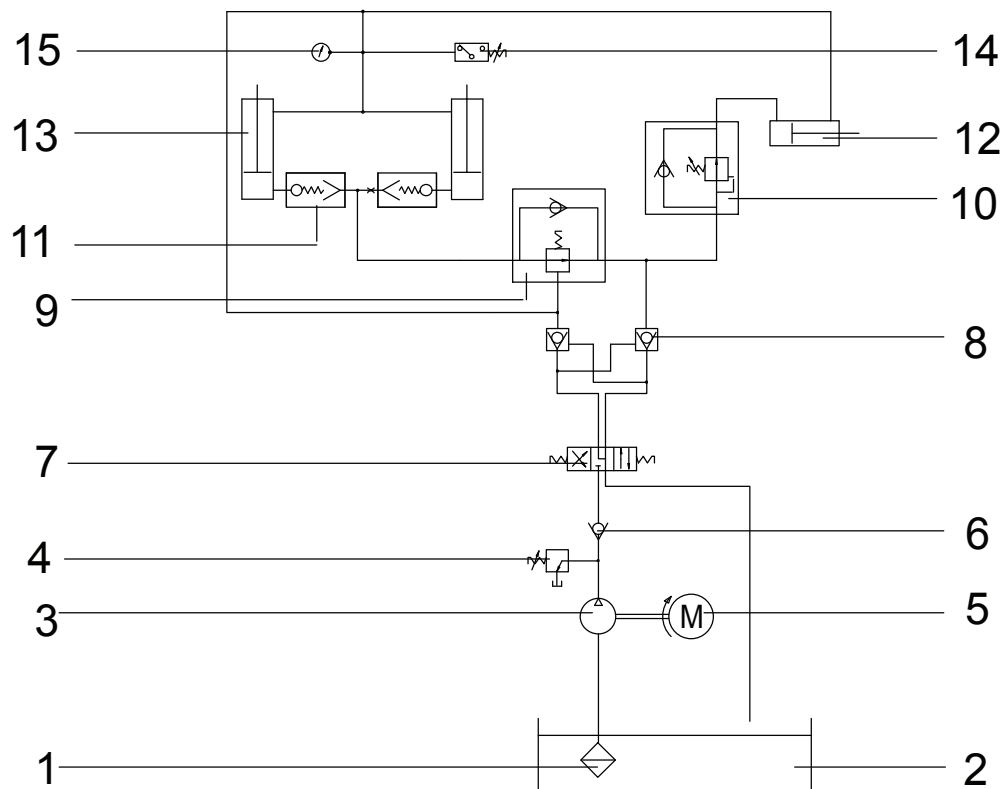
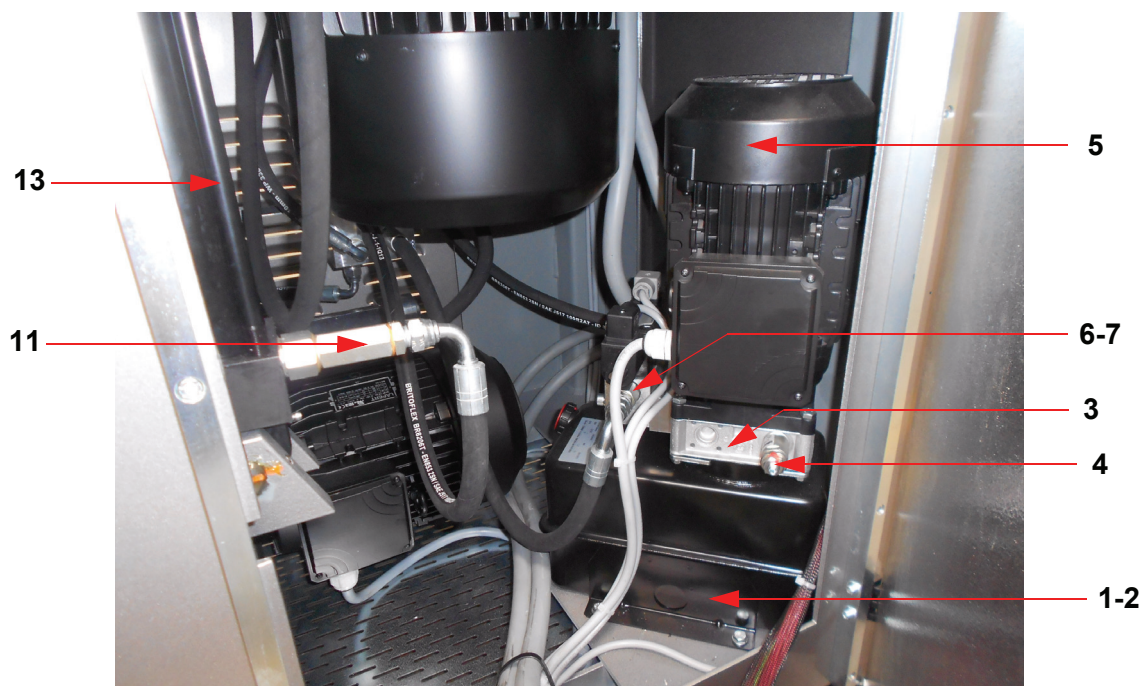
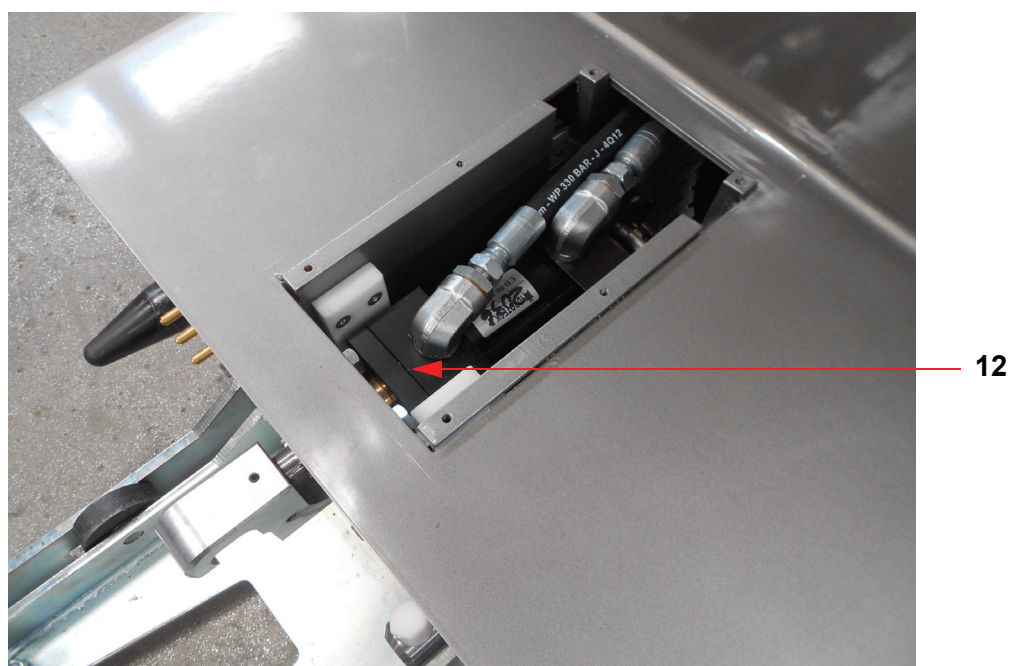
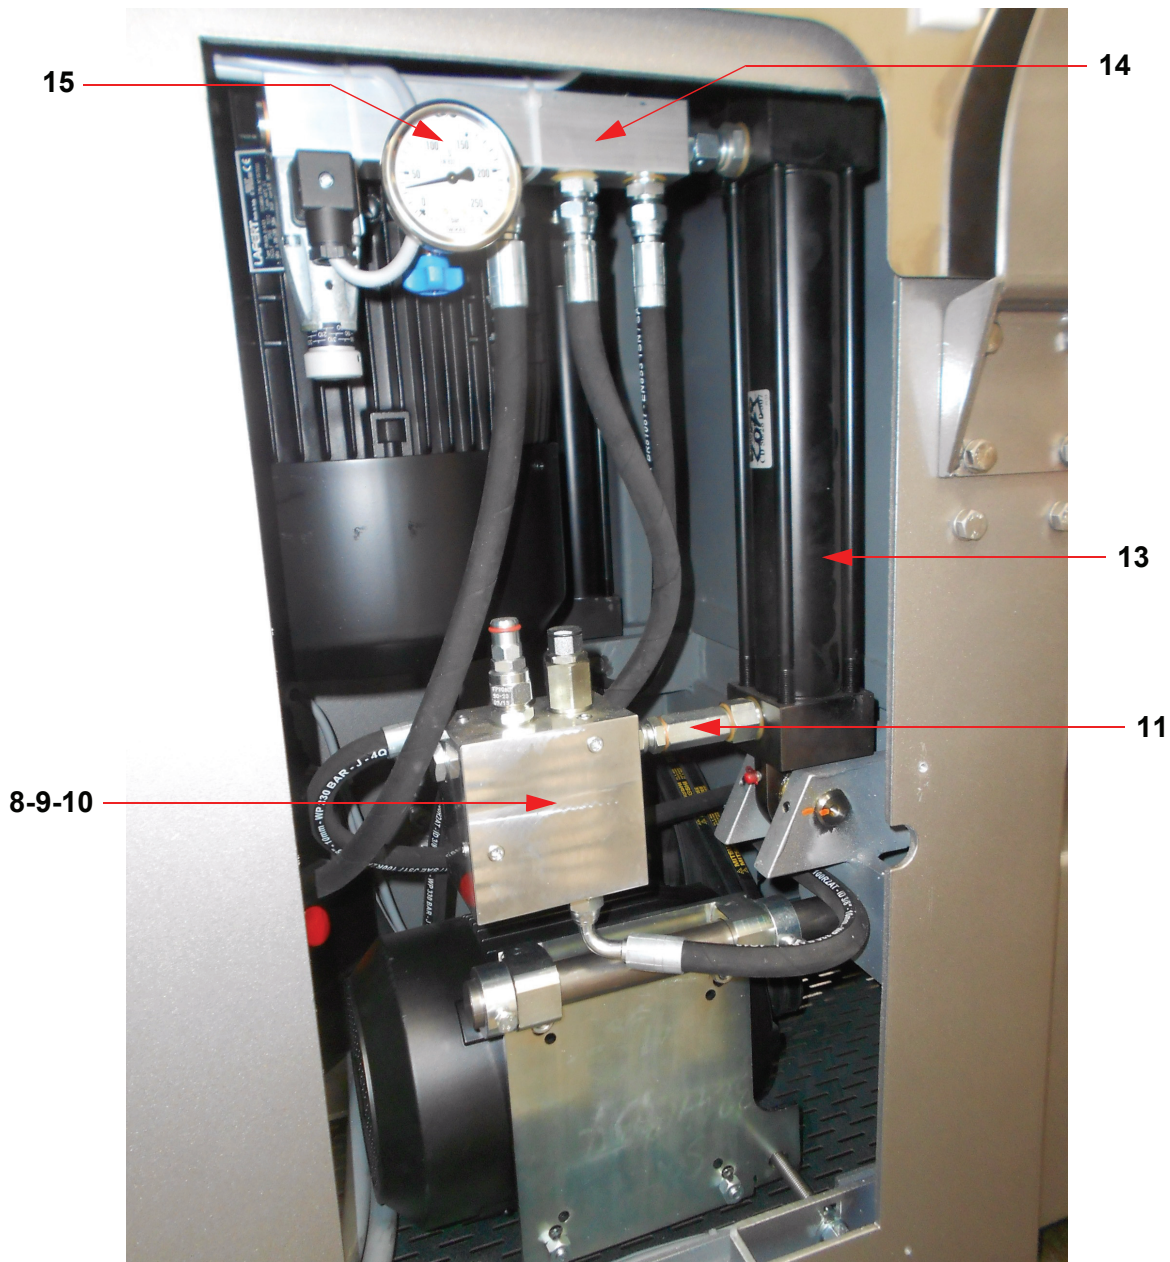

Fig. 29 Hydraulic scheme
Fig. 30 Hydraulic scheme view 1
Fig. 31 Hydraulic scheme view 2
Fig. 32 Hydraulic scheme view 3
* Fig. 29 on page 80, Fig. 30 e Fig. 31 on page 81, Fig. 32 on page 82